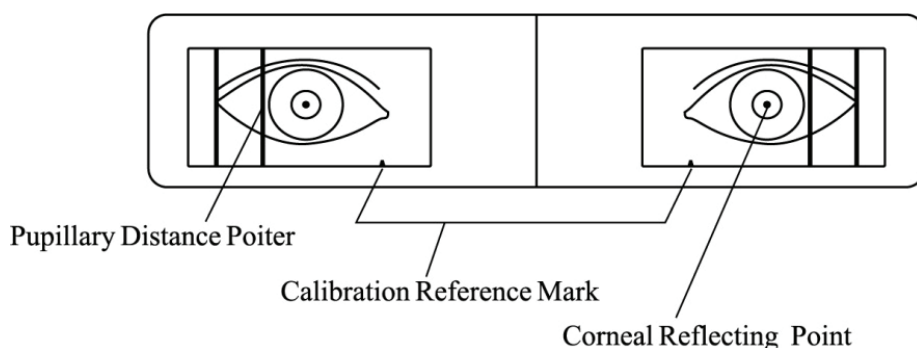
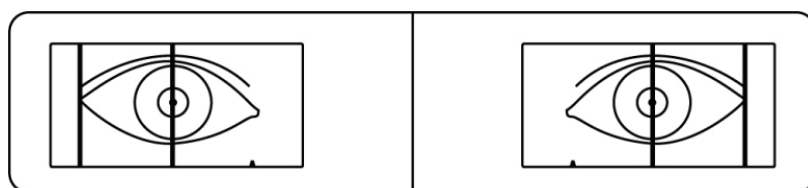

Fig. 7a (The sight the tester observes through measuring window)
Fig.7b (The left and right pointers coincide with the reflecting bright dots)
d. The tester observes the reflecting light spot on the testee's pupil through measuring window. Slide the Left and Right Pupillary Measuring Keys, the left and right pupillary distance pointers will coincide with the reflecting light spots of the testee's left and right pupils, respectively(as shown in Fig.7a and Fig.7b). The data shown in the display window are the measured pupillary distance.